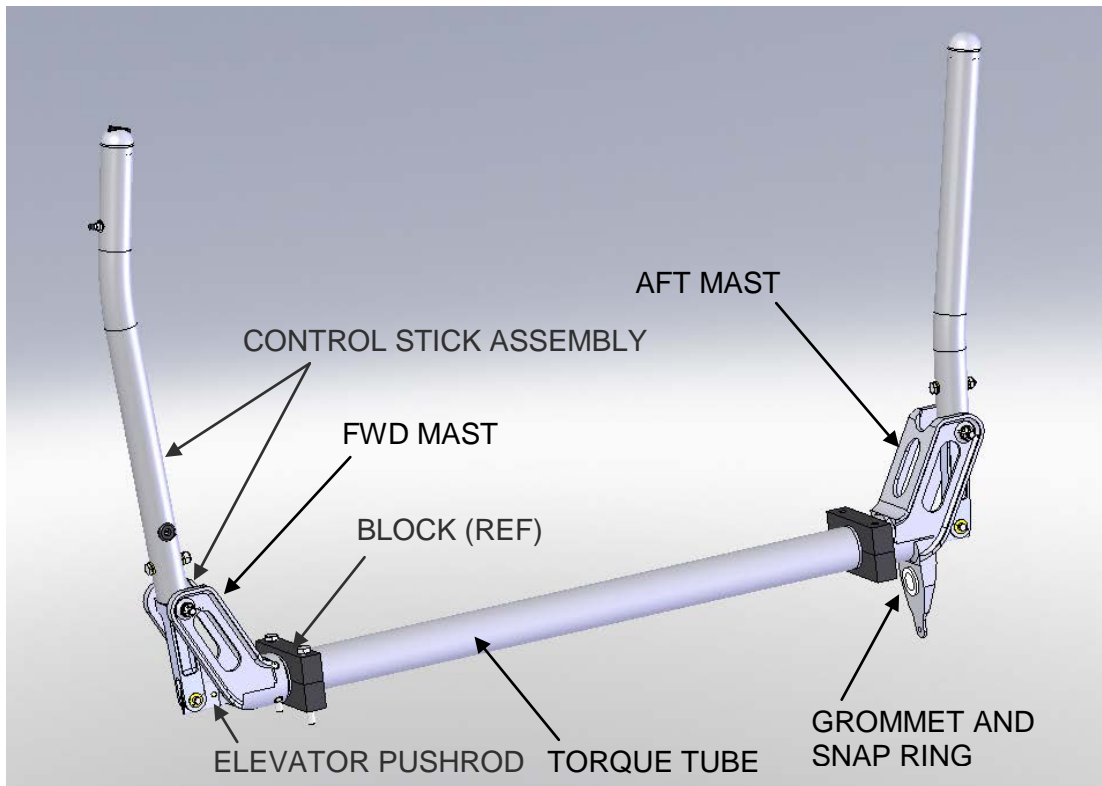

Figure 2 – Torque Tube Assembly
- e. Remove snap ring from the grommet installed on the aft torque tube mast. See Figure 2. Slide the grommet out, cut and remove the grommet. Slide the cable through the aft torque tube mast.
- p. Install, as removed, the forward mast onto the torque tube by installing four (4) or six (6) CR3243-5-3 rivets in original holes.
- t. Install the torque tube into the aircraft, as removed, so the forward torque tube mast butts up against the block. Refer to Figure 2.
- w. Reinstall, as removed, the aft mast by installing four (4) CR3243-5-3 rivets in original holes.